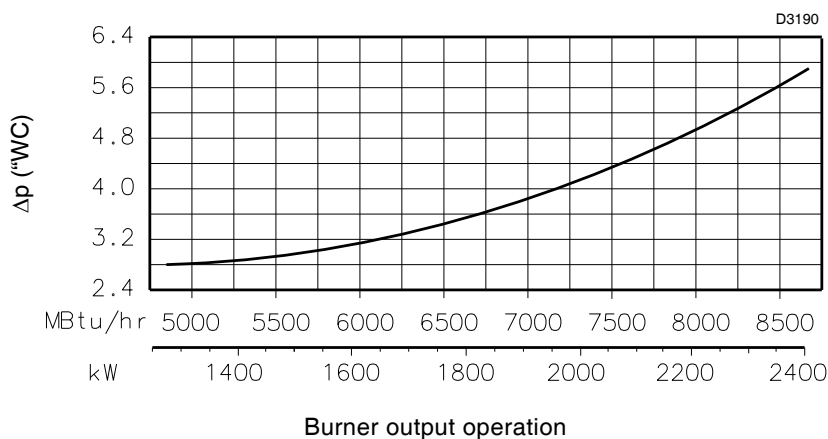
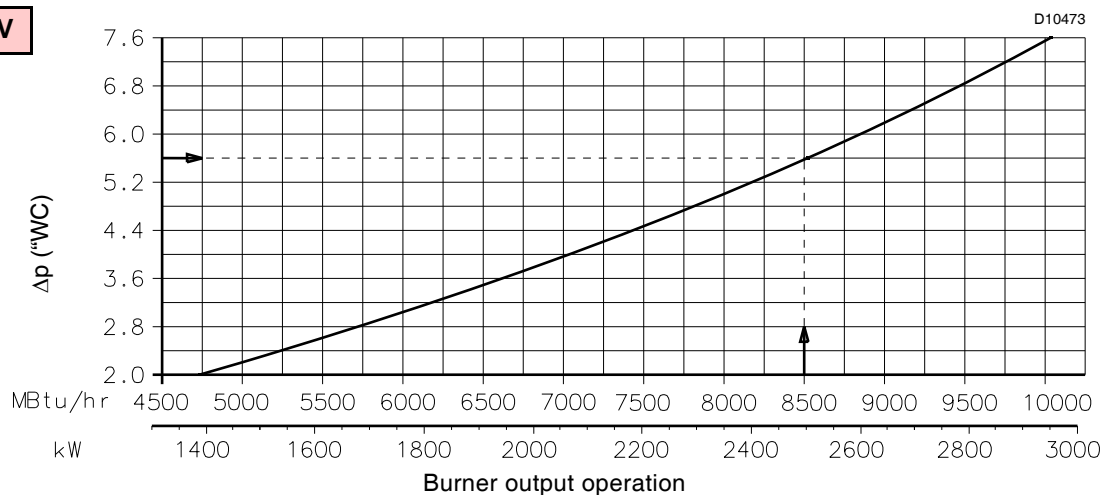
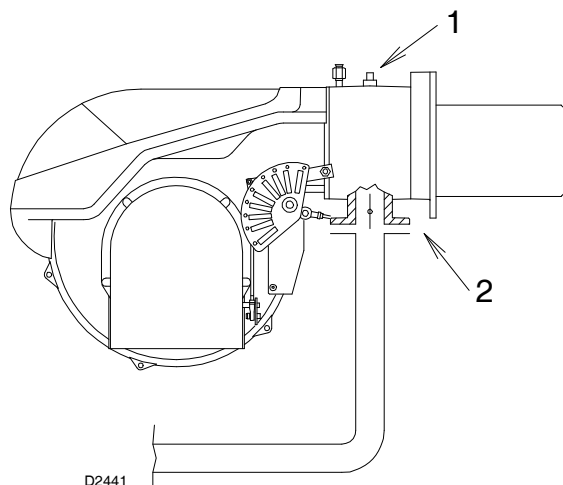

Fig. 22
Fig. 23
Fig. 24
The diagram (Fig. 22) and (Fig. 23) show minimum load losses at combustion head depending on the maximum burner output operation with natural gas (G 20).
Gas pressure is measured at the test point 1)(Fig. 24), with:
- subtract the combustion chamber pressure from the gas pressure measured at test point 1)(Fig. 24);
- find, in the diagrams (Fig. 22) and (Fig. 23) the pressure value closest to the result you want;
- Gas pressure at test point 1)(Fig. 24) = 6.8 "wc
To know the required gas pressure at test point 1)(Fig. 24), set the maximum output required from the burner operation, then:
- read, on the diagrams (Fig. 22) and (Fig. 23), the pressure test point 1) (Fig. 24);
- pressure required at pressure test point 1)(Fig. 24).
Δp "WC gas butterfly 2)(Fig. 24)